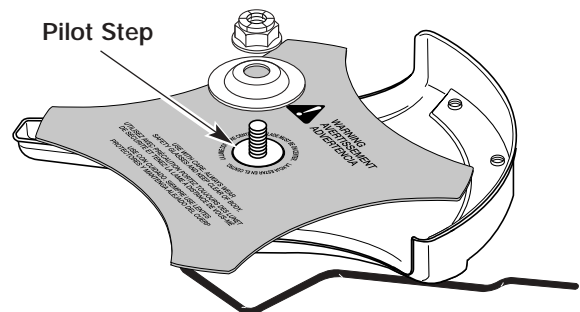

FIGURE 12
5. Make sure that the cutting blade is centered on the pilot step and sitting flat against the output shaft bushing, Figure 12.